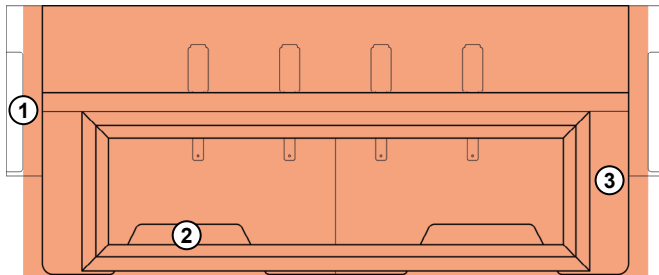
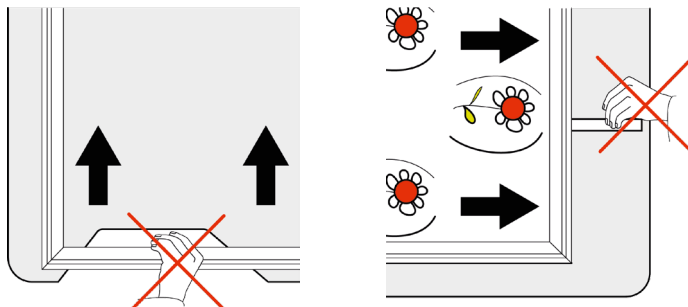

Figure 10: Working range of pantograph
Figure 11: Risk of crushing against pantograph frame
Do not rest on the work table or lean against the table recesses within the working range of the pantograph (Figure 10). A collision with the high-speed pantograph can cause bruising and injuries resulting from crushing or shear forces (Figure 11).
Keep your hands well away from the insides of supports (1), the table recesses (2) and pantograph guide slot (3) because of the risk of injury. Also see (Figure 11).